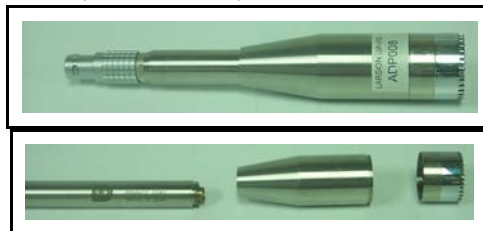

FIGURE 5-34 ADP008 being installed on PRM902
- Step 2** Thread the ADP008 onto the preamplifier and then thread the 2575 microphone on the preamplifier (FIGURE 5-34).